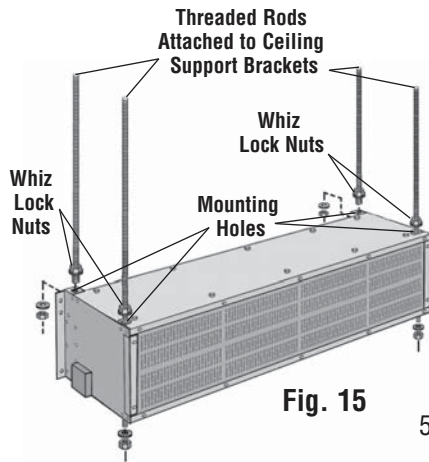

Fig. 15
2. Screw the rods into the ceiling support brackets (supplied by others). (See Fig. 15)